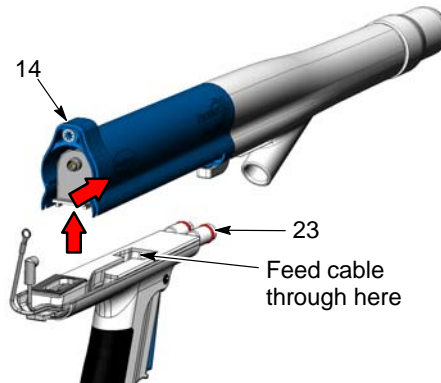

Figure 20 Separating the Gun Body from the Handle
- See Figure 20. Lift up on the back of the gun body (14) to unsnap it from the handle, then push the body forward to separate it from the handle (23).